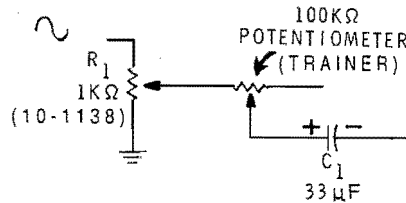

Figure 1-38
19. Now, remove the 10 kilohm resistor that you previously inserted between potentiometer  $R_1$  and coupling capacitor  $C_1$ . Then connect the 100 kilohm potentiometer between potentiometer  $R_1$  and coupling capacitor  $C_1$  as shown in Figure 1-38.